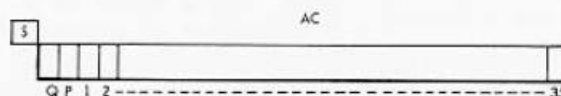

FIGURE 8
Accumulator (AC). The accumulator is a register with a capacity of 37 bits and a sign. See Figure 8.